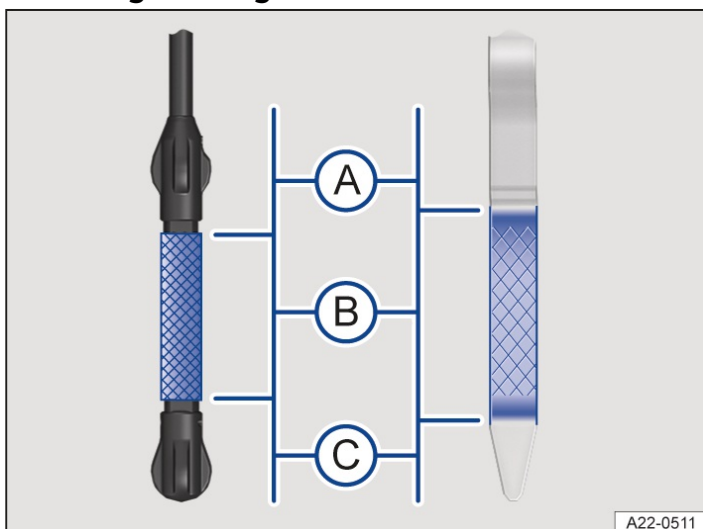

Fig. 2 Engine oil level markings on the oil dipstick (variants).
3. Pull out the oil dipstick again and read the engine oil level on the dipstick as follows → *Fig. 2*: